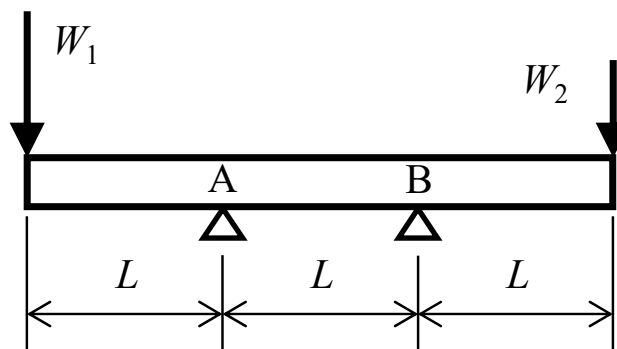

Fig. 5
4. A  $3L$ -long beam is supported at two points A and B at a distance  $L$  from both ends of the beam, as shown in Fig. 5. A concentrated load  $W_1$  is applied at the left end of the beam and a concentrated load  $W_2$  is applied at the right end, where  $2W_2 > W_1 > W_2$ . Answer the following questions. Neglect the weight of the beam. Describe also the processes of deriving the answers.